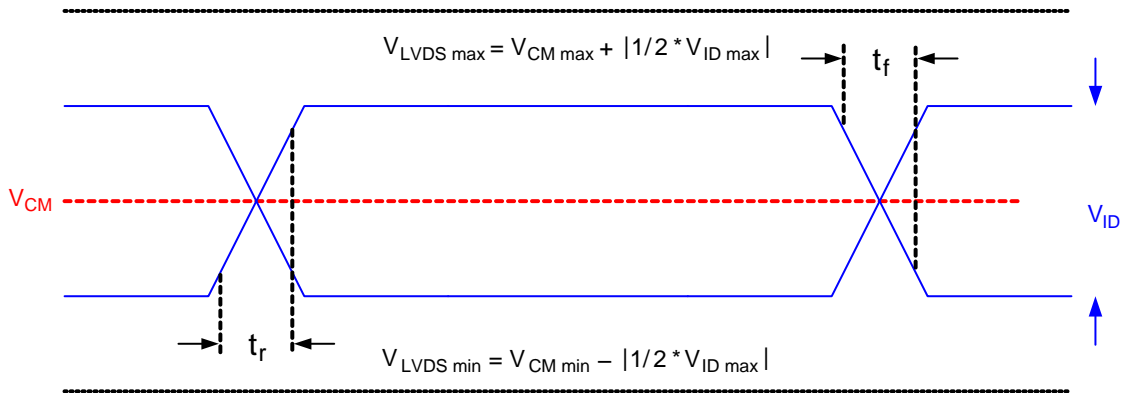

Figure 6. LVDS Waveform Requirements
(8) See Figure 6 LVDS Waveform Requirements.
(9) Simultaneous exposure of the DMD to the maximum Recommended Operating Conditions for temperature and UV illumination reduces device lifetime.